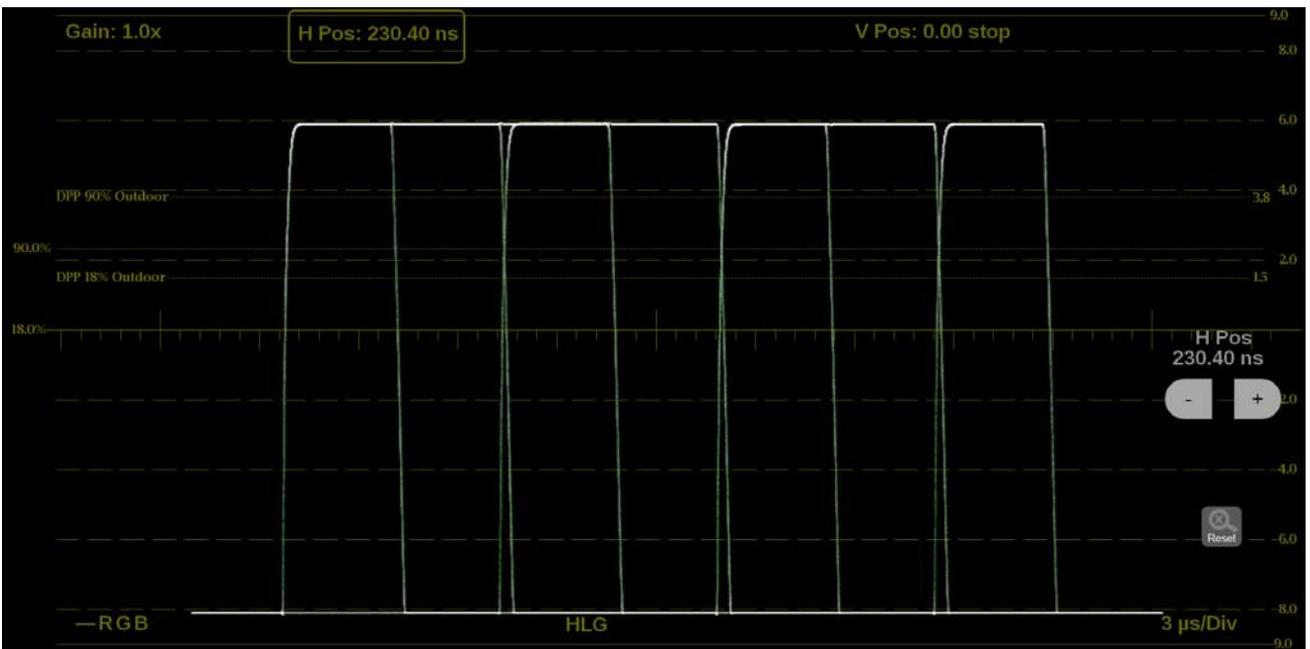

Figure 194: Stop Display on-screen tools – horizontal position
1. Select the **H Pos** button to allow adjustment of the horizontal trace. (See Figure 194.)